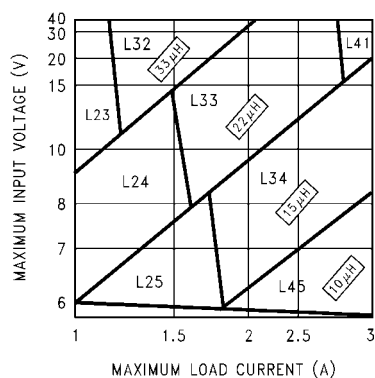
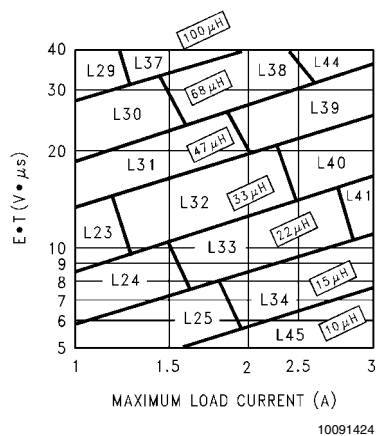

FIGURE 3. LM2676-3.3
FIGURE 6. LM2676-ADJ
Step 3: Determine the inductor required by using one of the four nomographs, *Figure 3* through *Figure 6*. Table 1 provides a specific manufacturer and part number for the inductor.
Step 5: Determine an input capacitor from Table 4 for fixed output voltage applications. Use Table 2 to find the specific capacitor type. For adjustable output circuits select a capacitor from Table 2 with a sufficient working voltage (WV) rating greater than $V_{in\ max}$, and an rms current rating greater than one-half the maximum load current (2 or more capacitors in parallel may be required).
Step 3: Use the nomograph for the 3.3V device, *Figure 3*. The intersection of the 16V horizontal line ($V_{in\ max}$) and the 2.5A vertical line ($I_{load\ max}$) indicates that L33, a 22 μ H inductor, is required.
Step 3: To use the nomograph for the adjustable device, *Figure 6*, requires a calculation of the inductor Volt•microsecond constant ($E \cdot T$ expressed in $V \cdot \mu s$) from the following formula:
Using *Figure 6*, the intersection of 27V• μs horizontally and the 2A vertical line ($I_{load\ max}$) indicates that L38, a 68 μ H inductor, should be used.
Important Note: When using the adjustable device in low voltage applications (less than 3V output), if the nomograph, Figure 6, selects an inductance of 22 μ H or less, Table 6 does not provide an output capacitor solution. With these conditions the number of output capacitors required for stable operation becomes impractical. It is recommended to use either a 33 μ H or 47 μ H inductor and the output capacitors from Table 6.